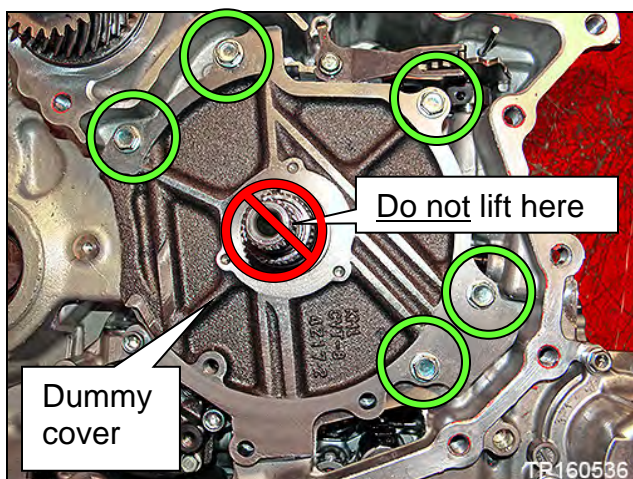

Figure 19C
13. Remove the five dummy cover bolts, and then remove the dummy cover. See Figure 19C.
- Lift the dummy cover from sides **ONLY**. Do **NOT** lift from the input shaft (Figure 19C). This can lift the clutch pack out.